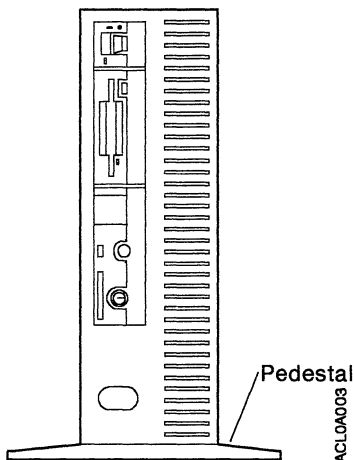

*Figure 5-6. Attaching the Pedestal for the Vertical Position*
**Warning:** In Figure 5-6 on page 5-8, the Model 140 is shown placed on the side that does not have screw-mounting holes. *Do not* operate the Model 140 when it is in this position. This may result in damage to the disk drive.